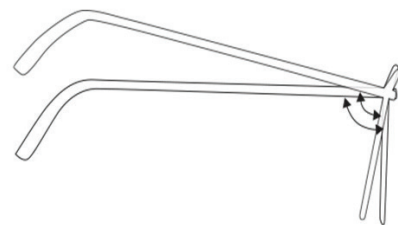

FIG. 6 Both sides of frame front must have equal pantoscopic angle
**Temples have equal pantoscopic angle:** Standard alignment means that the pantoscopic angle of each eyewire must be the same for both eyes (Fig. 6). To increase the pantoscopic angle, bend the temple down. To decrease it, bend the temple up.